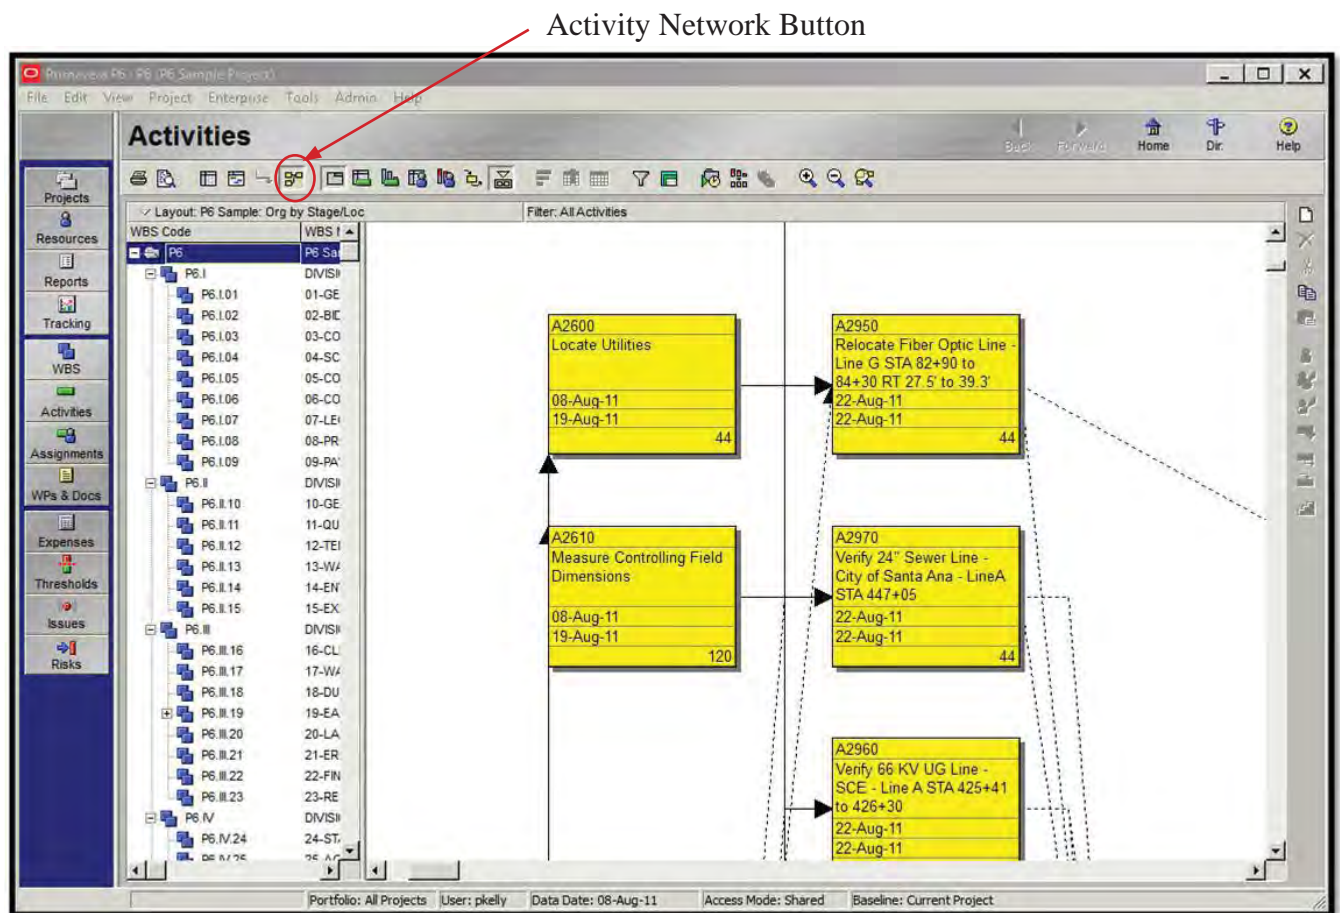

Figure 4-10 Top Layout - Activity Network
**Activity Network**—shows the activity boxes and logic links, **Figure 4-10**. The activity network is a graphical representation of the logical network behind the CPM schedule. Activity information is contained in boxes, with logic links represented by arrows.